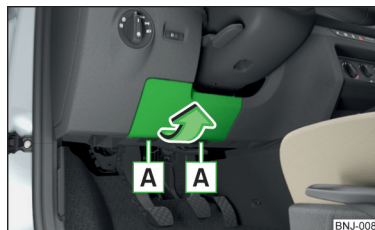

Fig. 281
- Remove the cover of the fuse box » Fig. 281 in the direction of the arrow.